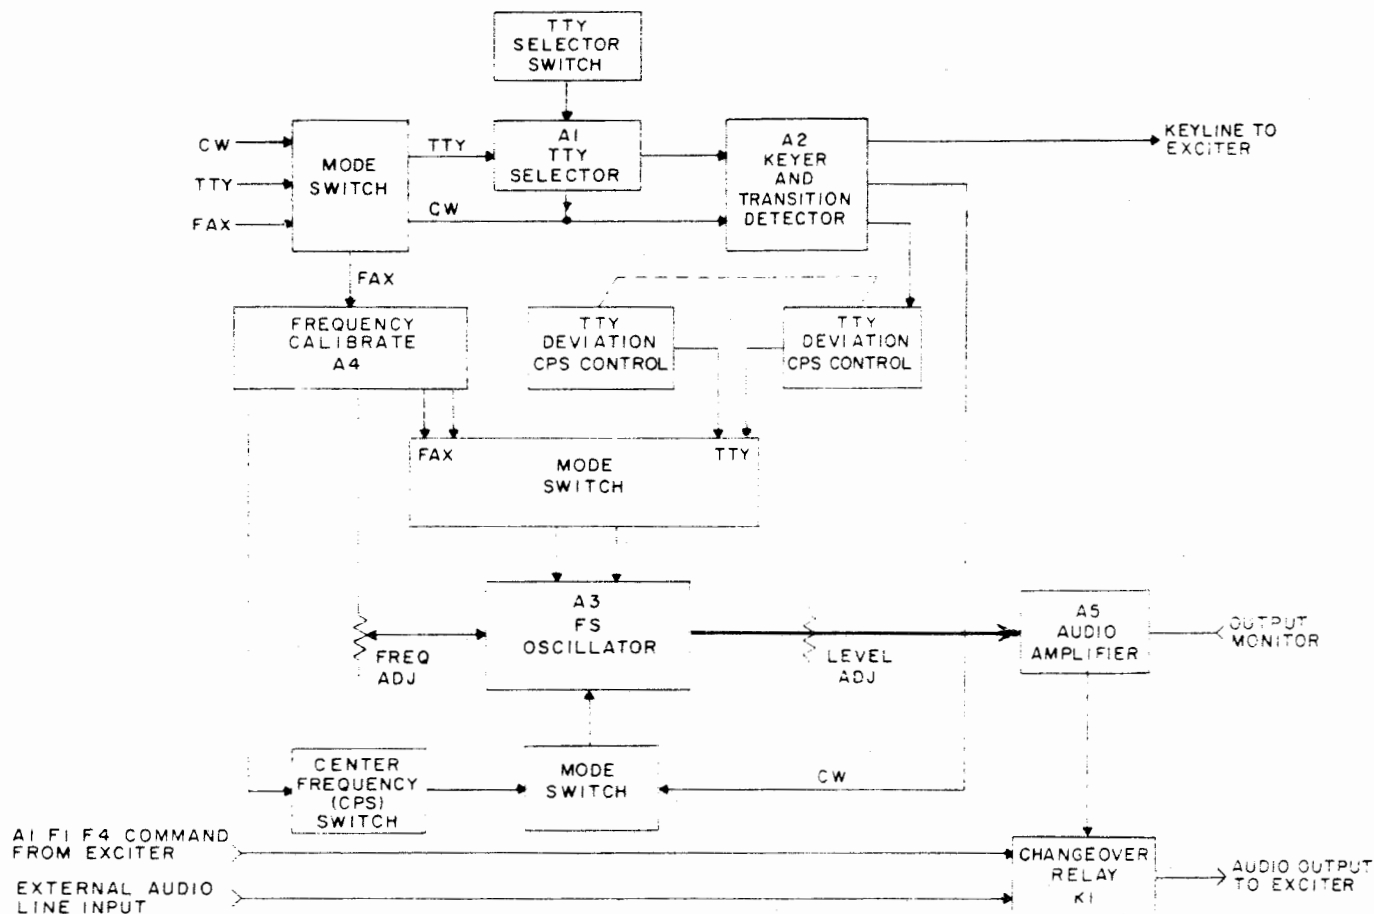

Figure 4-2. Keyer, Functional Block Diagram
b. FUNCTIONAL BLOCK DIAGRAM. - Figure 4-2 is a functional block diagram of the keyer which indicates the main signal path through the unit. The keyer input which may be cw (key), tty, or fax is selected at the front panel MODE switch. For cw on-off keying, a 1000-cycle tone is generated. For tty and fax, frequency-shift tones are generated. After the type signal is selected and the correct tone is generated, the output signal is applied to the exciter. The routing of each type input through the keyer is described in the following paragraphs.
(1) TTY INPUT. - The tty input which may be 20 ma neutral, 60 ma neutral, 50 volts neutral, 100 volts neutral, dry contact, or polar is routed from the MODE switch to the tty selector assembly (A1). The signal is coupled through one of several resistors, as determined by the TTY INPUT SELECTOR switch, which matches the keyer input to the type of input signal. From the tty selector, the tty signal is coupled to the keyer and transition relay assembly (A2).